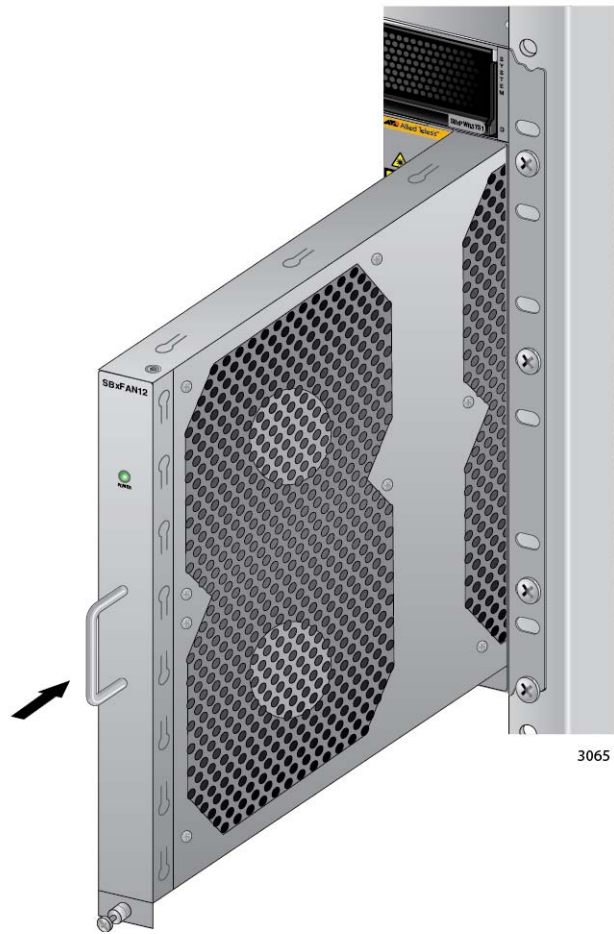

Figure 193. Installing a New AT-SBxFAN12 Fan Module
1. Orient the new module with the LED and module name on top and carefully slide the new module into the slot in the chassis. Refer to Figure 193 on page 305.